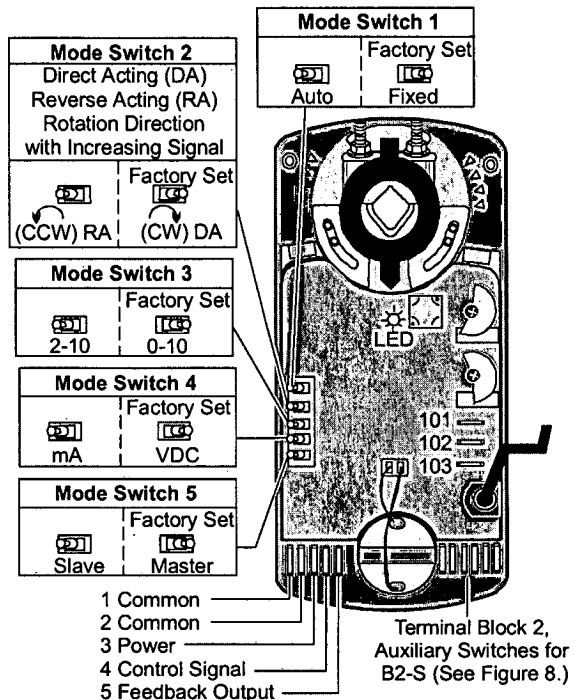

Figure 12: Mode Switch Settings for B2 Models
B2 and B2-S models are factory set with Mode Switch 5 in the "master" position. Designate this unit as the master actuator. Refer to Figure 12, and proceed as follows:
3. Connect Terminals 101, 102, and 103 from the master actuator to the corresponding terminals on the slave actuator. (See Figure 12.)
B2 and B2-S models are factory set with Mode Switch 2 in the DA mode. Move Mode Switch 2 to the RA mode. (See Figure 12.)